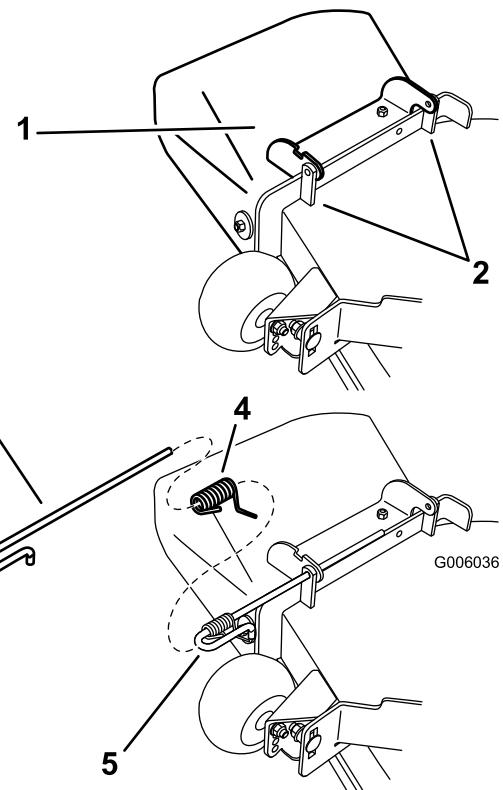

Figure 6
1. Position the discharge deflector assembly with the bracket ends between the welded brackets on the deck as shown in Figure 6.
2. Install the spring onto the straight end of the rod. Position the spring on the rod as shown in Figure 6 so the shorter spring end is coming from under the rod before the bend and going over the rod as it returns from the bend.
3. Install the spring and rod assembly through the openings in both the deck brackets and the deflector bracket (Figure 6).